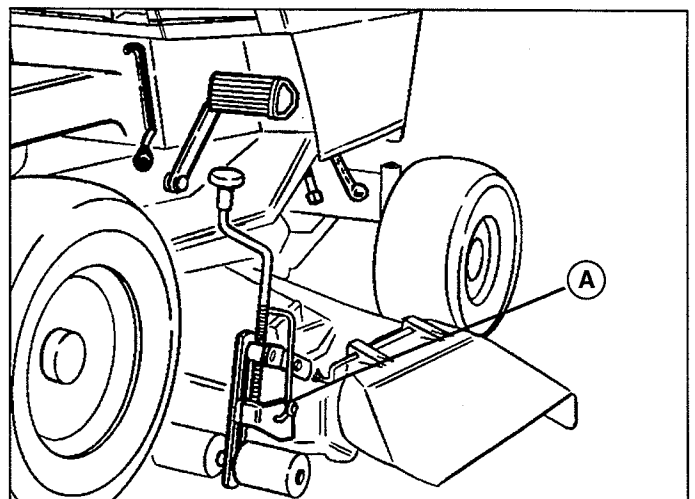

Figure 8.
13. See figure 8. Remove the mower support/height indicator from the mower deck housing. Retain the two taptite screws.